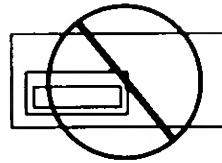

Figure 2
- Envelopes with transparent windows (See figure 2)